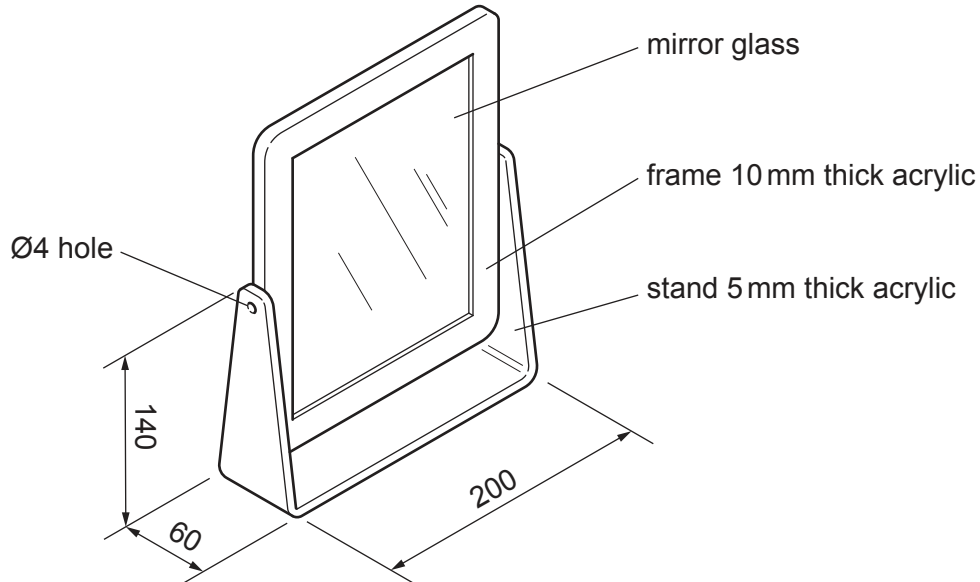

Fig. 11.1
- 11 Fig. 11.1 shows details of an incomplete design for an adjustable mirror made mainly from acrylic. Parts of the adjustable mirror will be batch produced in a school workshop using a laser cutter.